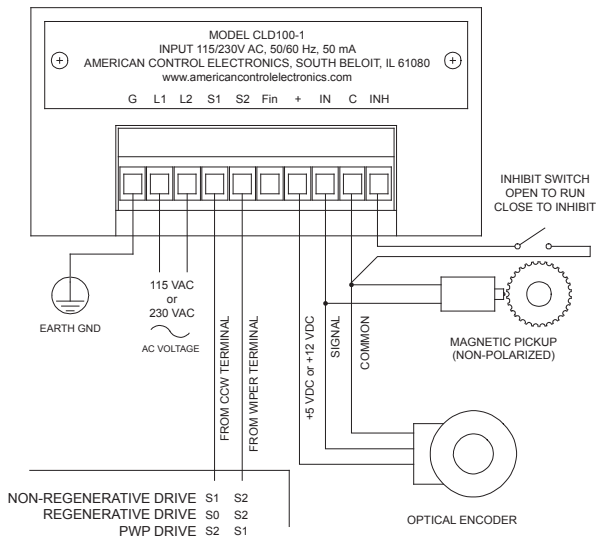

Figure 6. CLD100 Connections
If using a non-regenerative drive, connect the CLD100 S1 to drive S1 and the CLD100 S2 to drive S2. Refer to Figure 6 on page 11.
If using a regenerative drive, connect the CLD100 S1 to drive S0 and the CLD100 S2 to drive S2. Refer to Figure 6 on page 11.
If using a PWP series drive, connect the CLD100 S1 to drive S2 and the CLD100 S2 to drive S1. Refer to Figure 6 on page 11.
Only one feedback source may be used at a time. Refer to Figure 6 on page 11.
Short terminal INH to common (C) to inhibit the CLD100. The CLD100 output will drop to the MIN trim pot setting. Remove the short to resume operation. Refer to Figure 6 on page 11.